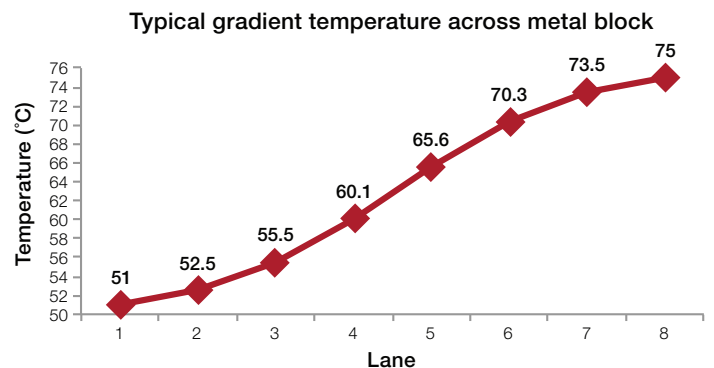

Figure 3. Nonlinear gradient temperature.
- A true linear gradient is not achievable because of heat interactions between the high and low temperature set at each end of the homogeneous metal block; instead of a linear gradient, the temperature across a homogeneous metal block follows more of a sigmoidal curve, as shown in Figure 3